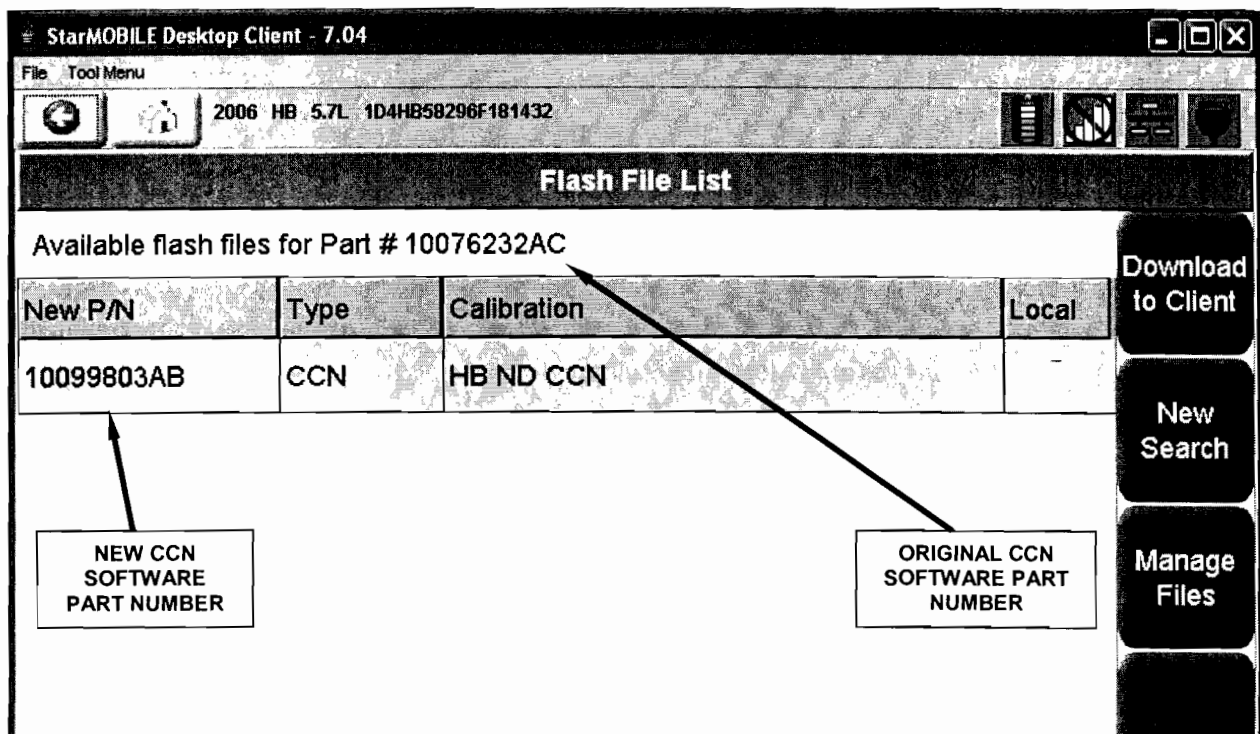

Figure 10 – StarMOBILE Sample Shown Before Flash
25. Record the part number displayed at the top of the “Flash CCN” screen for later reference (Figure 10).